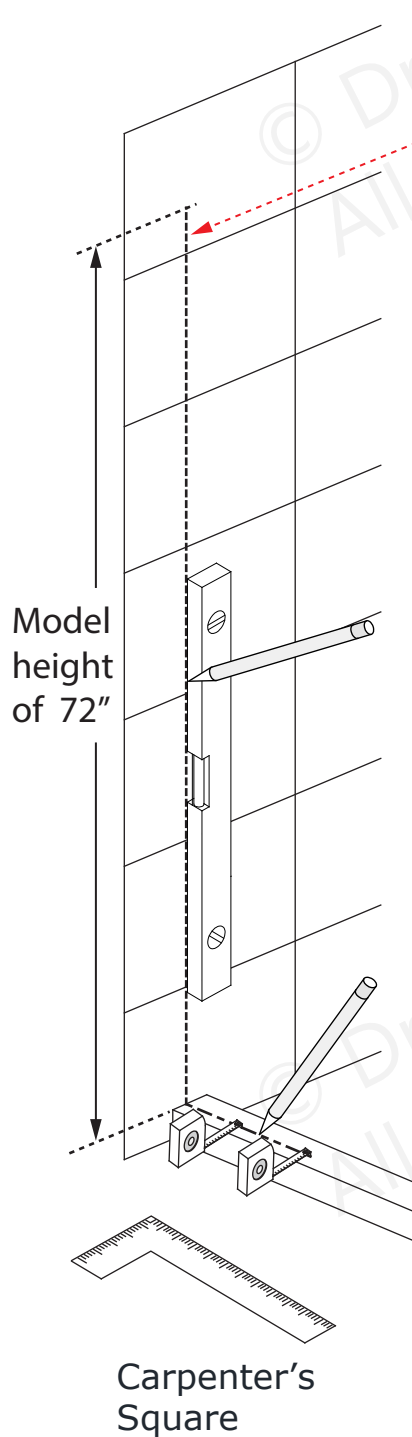

Fig 1
1. Draw a line on the threshold and up the wall to represent the outside edge of the U-channels. Make sure the line is parallel to the front edge of the threshold. **(Fig 1)**